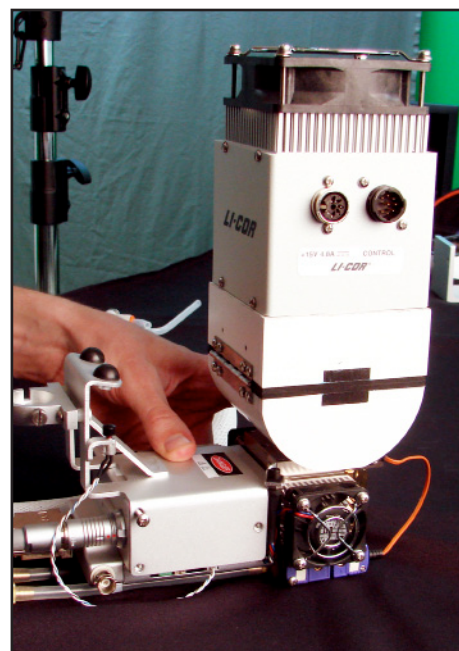

Figure 8. Install the support bracket.
19. Attach the 6400-22 support bracket to the sensor head with the 3 provided screws (PN 122-00008) as shown in Figure 8. If desired, the tripod mounting bracket can also be attached under the RGB support bracket.